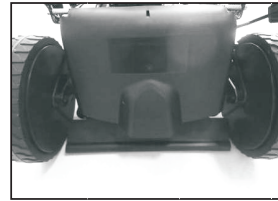

Fig.6C
3. Lower the rear cover again. (Fig.6C)